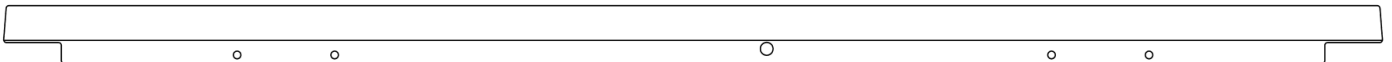

Figure 1: Tailgate Molding with 5 installation holes
STEP 1: If your OEM Tailgate Molding has the 5 installation holes as shown in figure 1, please follow steps 2 through 5 to add the four remaining holes to the new molding. If your OEM Tailgate Molding does not have the 5 installation holes, please disregard these instructions.